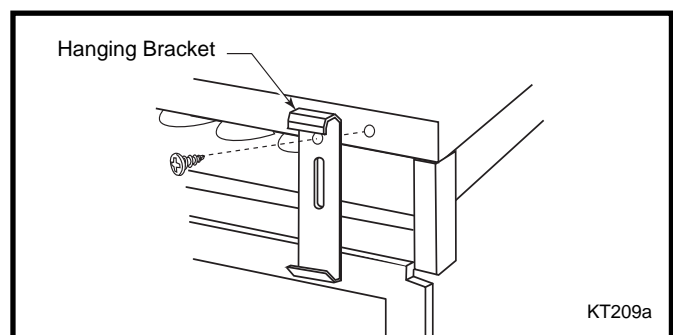

Fig. 33 Hanging bracket alignment.
2. Install the hanging brackets, as shown in Figure 33.